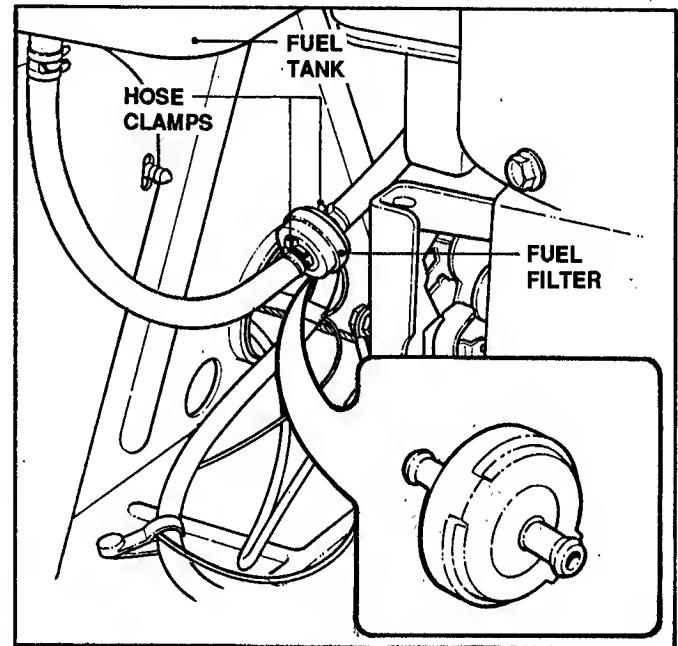

FIGURE 3.11
3. Install new fuel filter. Part number 1-4359. See Figure 3.11.